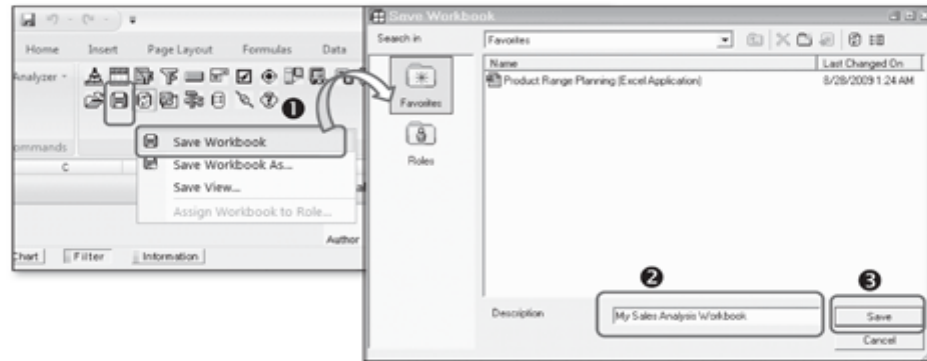

Figure 10.24 Save a New Workbook
After you've finished analysis in the workbook, you can save it on the SAP NetWeaver BW server so that you can later reuse the analysis or perform a new analysis. To save a workbook, click on the Save button, as shown in ❶ of Figure 10.24. Select Save Workbook to save this workbook on the server.
If you want to make this workbook available to other users, you can save it under a specific role (Figure 10.24). All of the users under that role can then access the same workbook for their analysis.